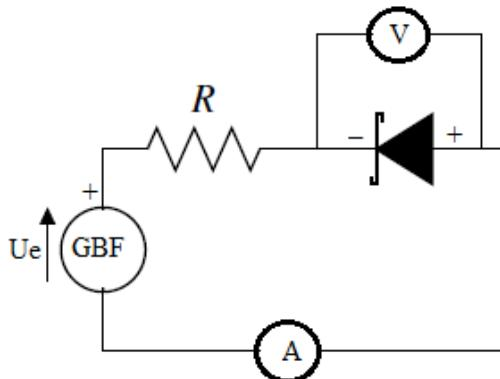

Figure 10: Electrical circuit of a reverse-biased Zener diode.
- Set up the electrical circuit as shown in Figure 10, placing the Zener diode ZPD 6.2 first, followed by the Zener diode ZPD 9.1, both in reverse bias.